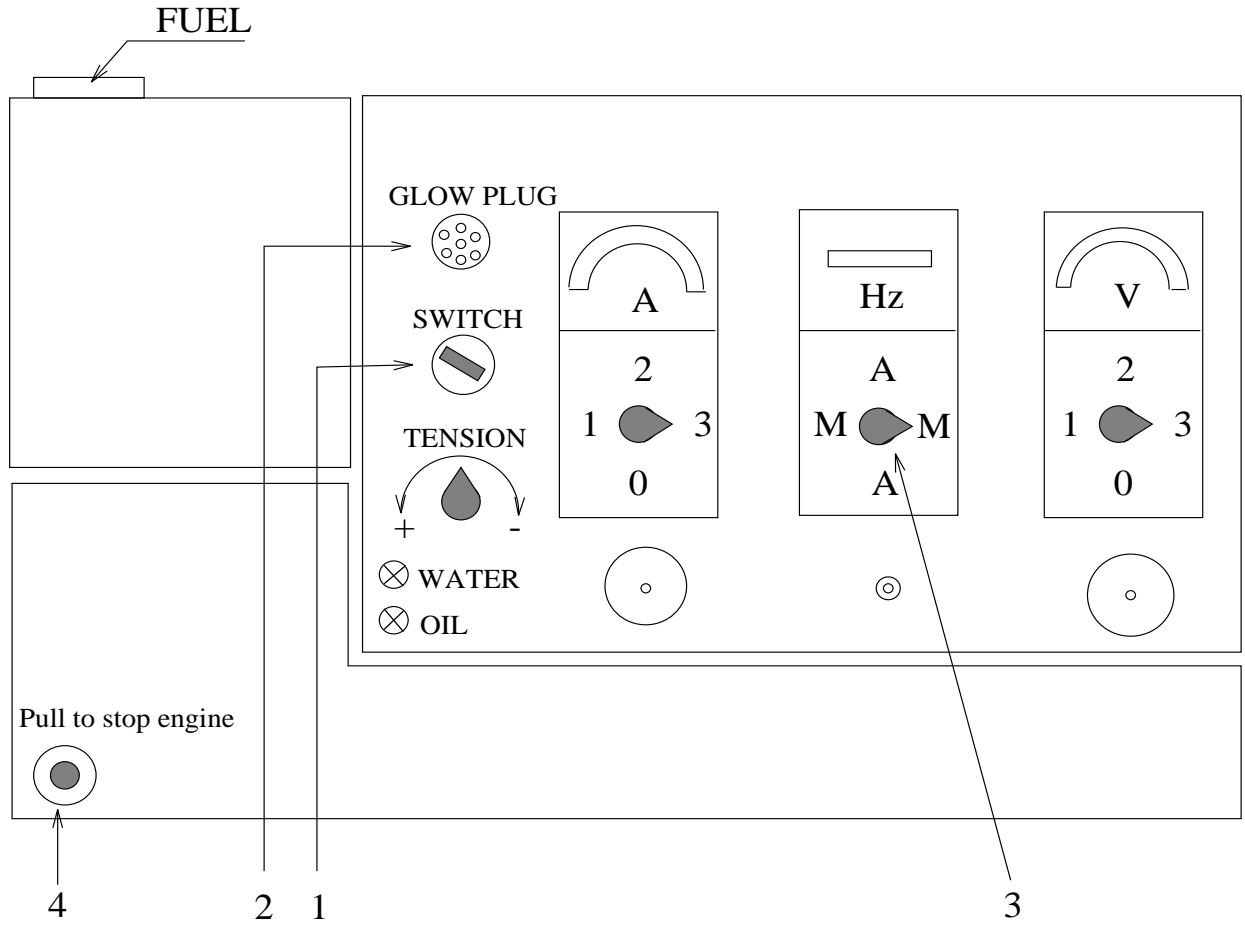

Figure C.1: Generator's console schematic diagram.
The Wise Observatory is equipped with a Peugeot generator (Fig. C.1) to allow working ability during electricity breakdowns. Here we outlined the operating instruction of the generator.
3. Check fuel and fill up if necessary (see Fig. C.1);
4. Make sure that the main connector of the generator (3) is in the **A** position (OFF);
5. Turn keyswitch (1) clockwise and hold it like that until pilot light (2) turns on red;
6. Release keyswitch (1) and immediately press and turn clockwise again until engine starts;
8. Turn the main connector (3) to position **M** (ON);